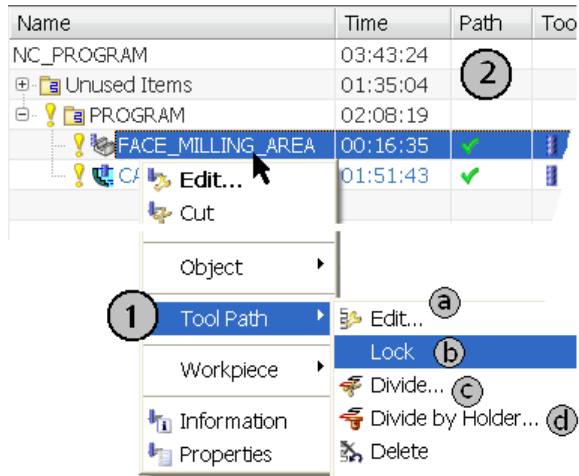

Figure 8.7 Tool path editing options
27. Go to the *Tool Path* option — figure 8.7 (1).
28. Select the *Lock* option — figure 8.7 (b).
29. A padlock icon will appear in the *Path* column in *Operation Navigator* — figure 8.7 (2).
The *Edit...* command — figure 8.7 (a) — enables launching the tool path editor, by means of which it is possible to execute deep manual interventions into the tool path segments — the description of *Tool Path Editor* can be found later in this chapter.
When bulky elements are to be machined, e.g. models of components, the roughing time often extends to over 20 hours. Then, it is necessary to divide the machining, taking into consideration the tool wear or its control measurement. In NX CAM, there is the possibility to make such a division of the tool path by means of the option shown in figure 8.7 (c).
33. Go to the *Tool Path* option — figure 8.7 (1).
34. Select the *Divide* option — figure 8.7 (c).
40. Go to the **Tool Path** option — figure 8.7 (1).
41. Select the **Divide by Holder...** option — figure 8.7 (d).